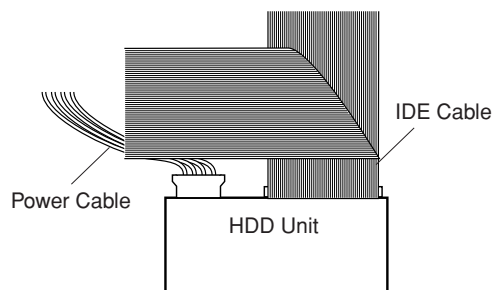

Fig. 7
- Disconnect the power cable and IDE cable from the HDD unit. (Fig. 7)
- Connect the power cable and IDE cable to the HDD unit. (Fig. 7)